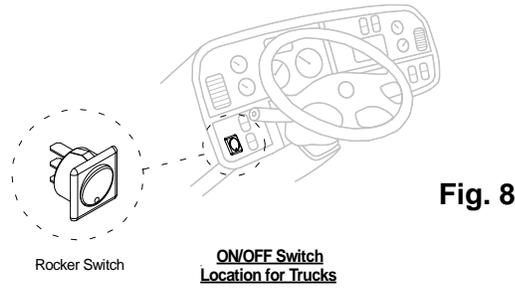

Fig. 8
1. Turn Power Switch On (If applicable): To activate power to the liftgate, turn the cab shutoff switch, **Fig.8**.